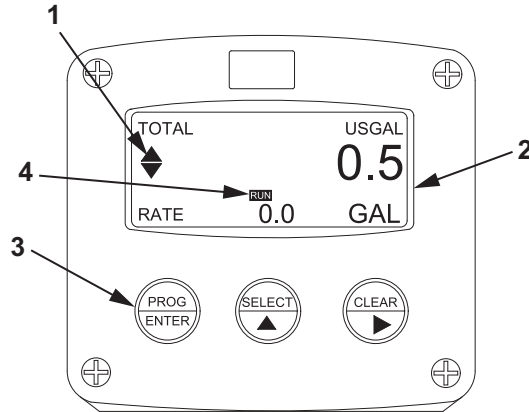

Figure 2. RUN Display.
- d. Verify that RUN (Figure 2, Item 4) appears on the display screen (Figure 2, Item 2).
2. Press and hold the PROG/ENTER key (Figure 2, Item 3) for 7–10 seconds to enter the SETUP level. The display screen (Figure 2, Item 2) will show two arrows (Figure 2, Item 1).